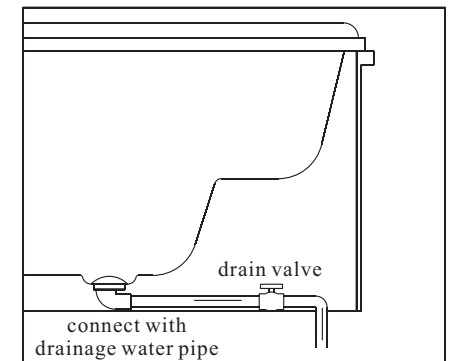

Fig 1
1. Please connect the water pipe before installed the products. (Fig.1)